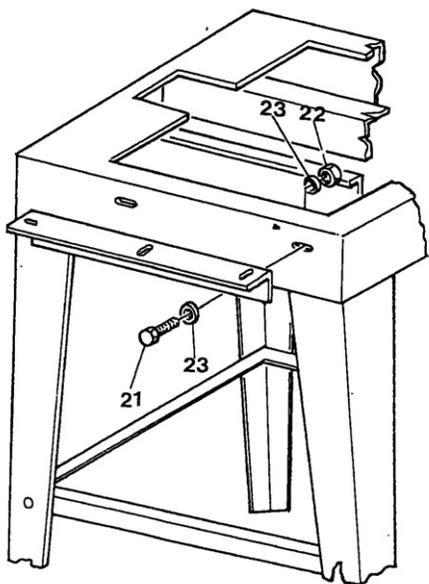

Fig. 8
6) Connect table holder squares with screws (21) TE M10x20 and relative (22) and washers (23) (see fig. 8).